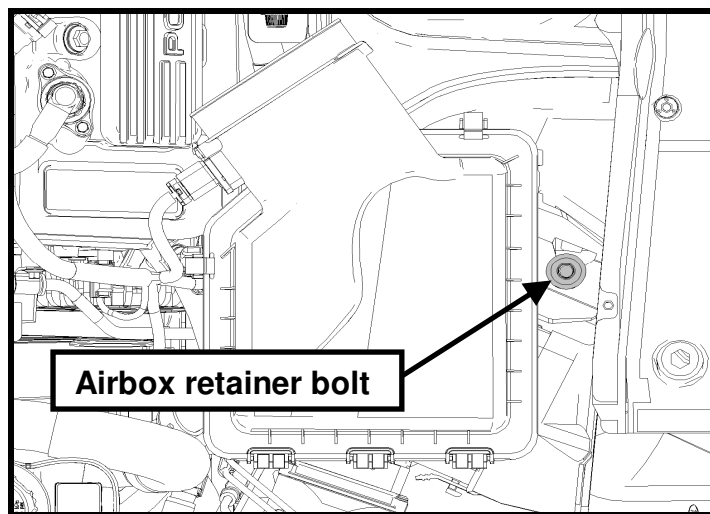

Fig. 2
- STEP 4:** Remove the airbox retainer bolt and airbox from vehicle (See Fig. 2).